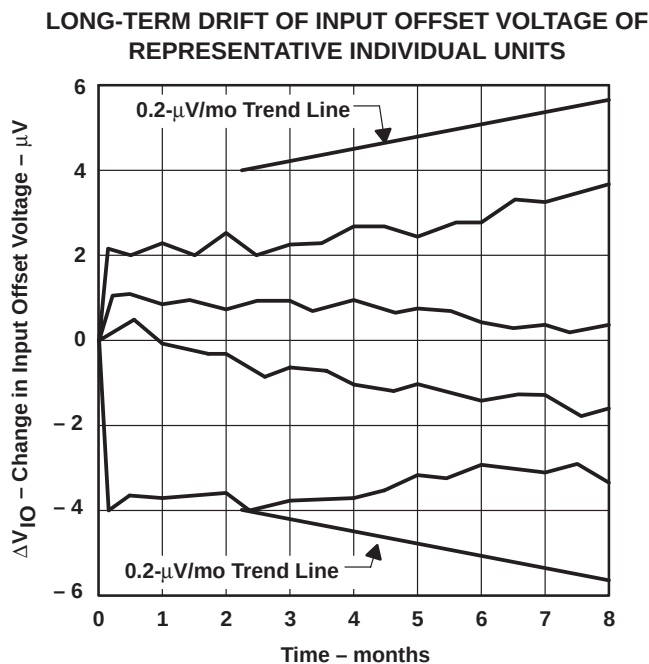

Figure 3
4. Long-term drift of input offset voltage refers to the average trend line of offset voltage versus time over extended periods after the first 30 days of operation. Excluding the initial hour of operation, changes in V_{IO} during the first 30 days are typically 2.5 μV (see Figure 3).
4. Long-term drift of input offset voltage refers to the average trend line of offset voltage versus time over extended periods after the first 30 days of operation. Excluding the initial hour of operation, changes in V_{IO} during the first 30 days are typically $2.5\ \mu\text{V}$ (see Figure 3).